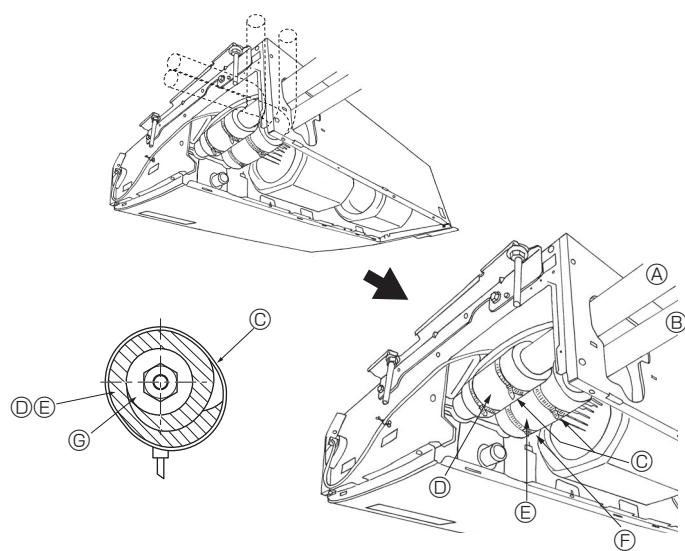

Fig. 4-3
④ Apply refrigerating machine oil over the entire flare seat surface.
④ Use correct flare nuts meeting the pipe size of the outdoor unit.
4.3. Indoor unit (Fig. 4-3)